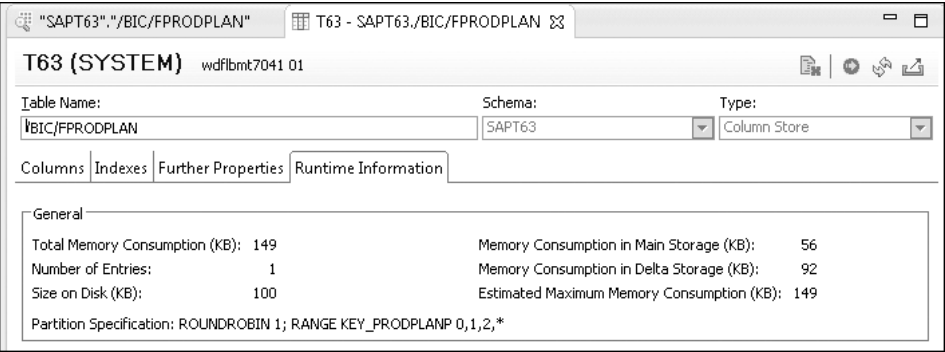

Figure 10.37 SAP HANA Memory Consumption after Compression
Before compression, the **Memory Consumption in Main Storage (KB)** is 23 and **Memory Consumption in Delta Storage** is 153. After compression, **Main** increases to 56 and **Delta** goes down to 92 (see Figure 10.37).